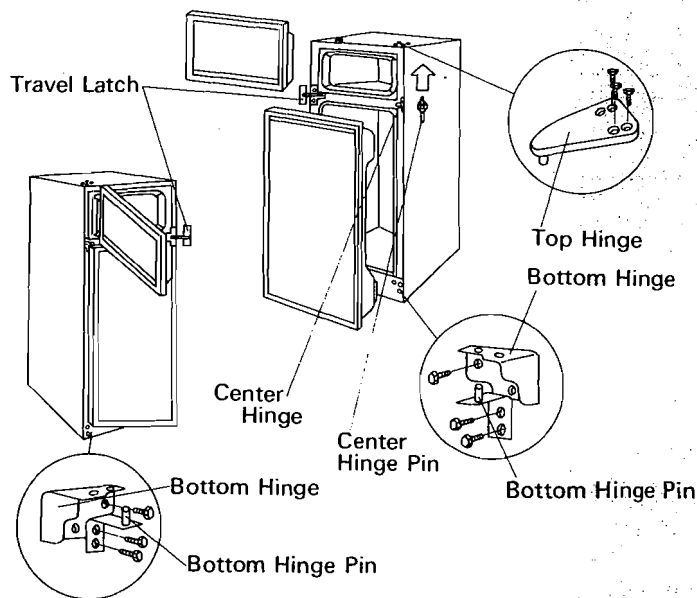

Fig. 36
- a) Following 1 – 6 of Changing Door Opening, remove FREEZER FOOD STORAGE DOOR, TOP HINGE, CENTER HINGE, CENTER HINGE PIN, BOTTOM HINGE and BOTTOM HINGE PIN. (Refer to Fig. 36)